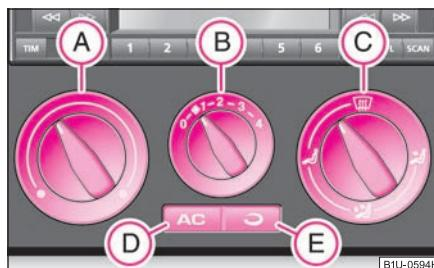

Fig. 96 The air conditioning system: Control elements
The air conditioning only operates if button  \Rightarrow page 80, fig. 96  is pressed and the following conditions are met:
- Turn the control dial **(A) ⇒ fig. 96** to the right in order to increase the temperature.
- Press the button **(AC) (D) ⇒ fig. 96**. The warning light lights up in the button.
- Press the button  ⇒ page 80, fig. 96 - the warning light lights up in the button.